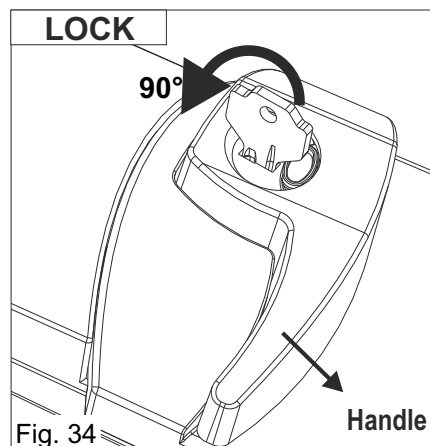

Fig. 34
- 2) Turn the key about 90° counter-clockwise (Fig. 34)